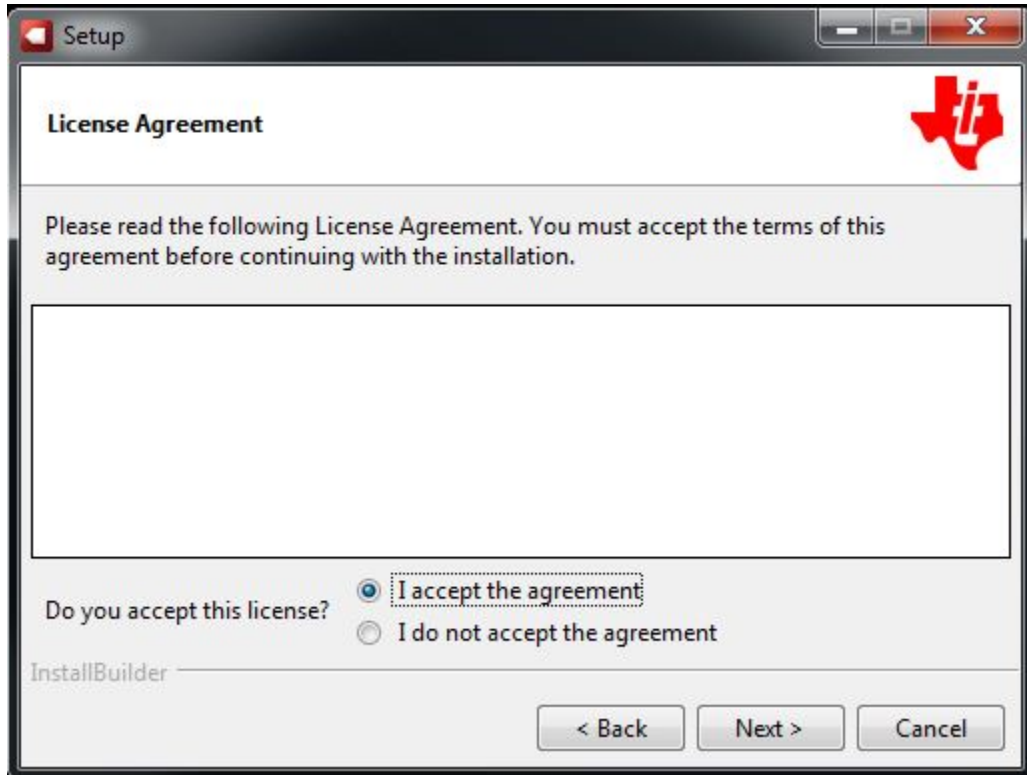

Figure 3. ADS7142 GUI Installation
2. Accept the *License Agreements* and follow the on-screen instructions to complete the installation (see Figure 3).